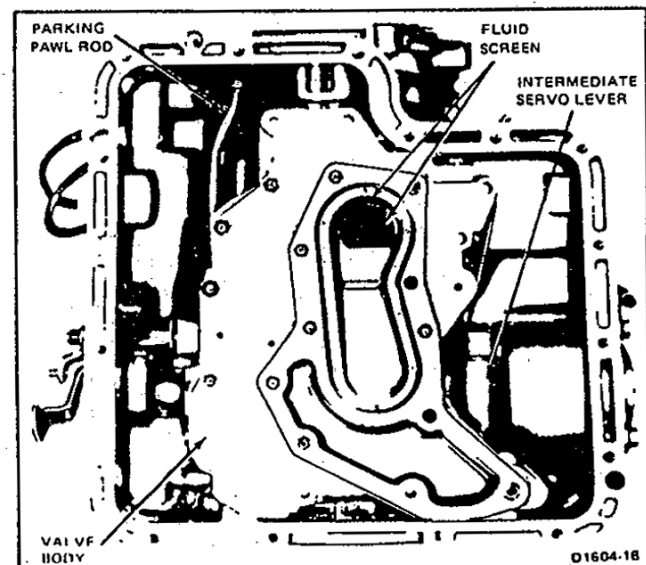

FIG. 17 Transmission With Pan Removed
Refer to Fig. 17.
3. Remove the eight valve body attaching bolts. Lift the valve body (Fig. 17) from the transmission case.